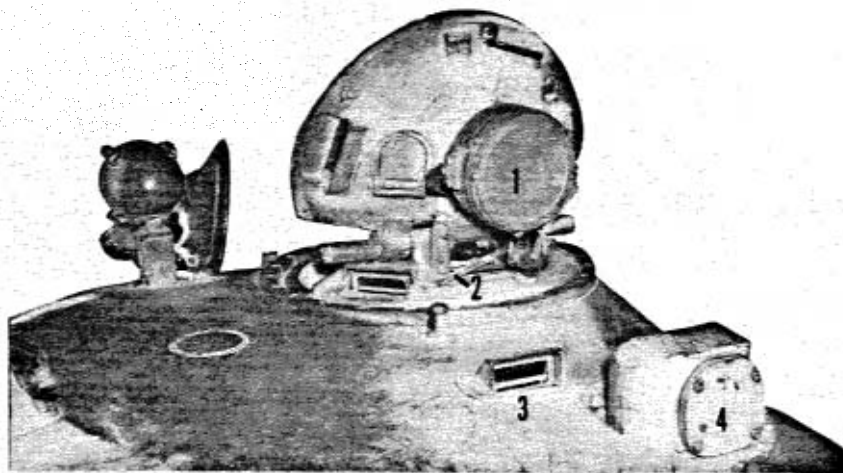
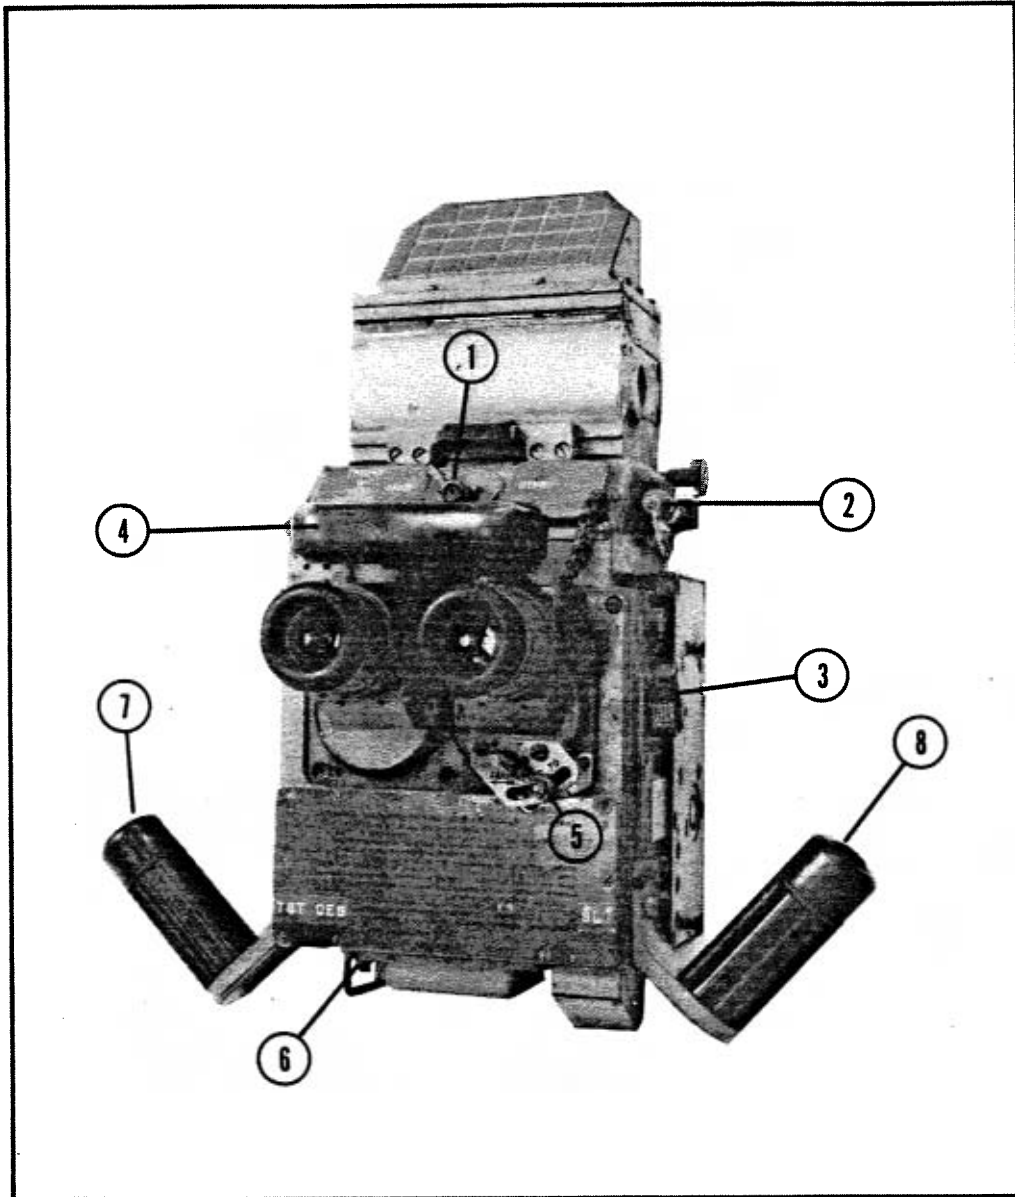

FIG. 3-4. OPEN HATCH: FRONT VIEW
FIG 3-5. TKN-3 PERISCOPE
Beneath the left side of the sight is the infrared power source which, when turned on after the sight is in the night mode ("H"), makes a ticking sound (Fig. 3-5).
The eyepieces can be adjusted for separation and can be focused + four (4) diopters (Fig. 3-5). The protective covering (Fig. 3-4) over the external lens of the sight is kept dust-and-dirt-free by moving the white handle above the TKN-3 sight. This activates a rubber wiper that moves across the lens cover.